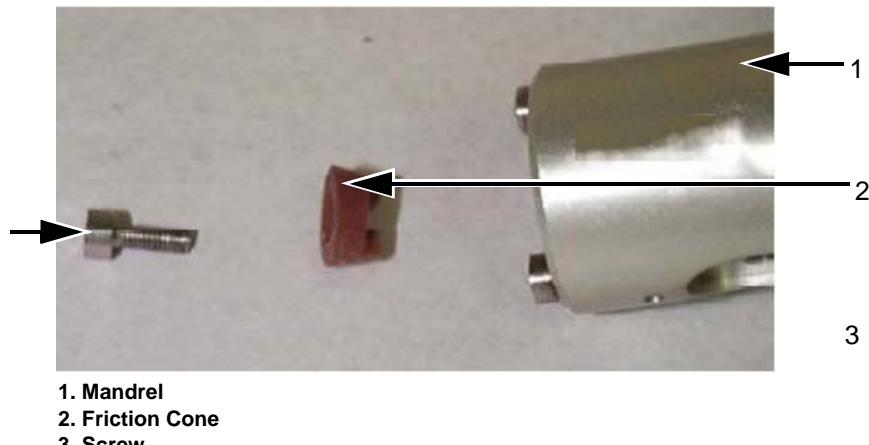

Figure 5-86: Mandrel, Friction Cone, and Screw
- 8 Continue to hold the mandrel down, place the friction cone into the top hole of the mandrel so that the tabs engage the slot in top of the shaft, as shown in Figure 5-86.